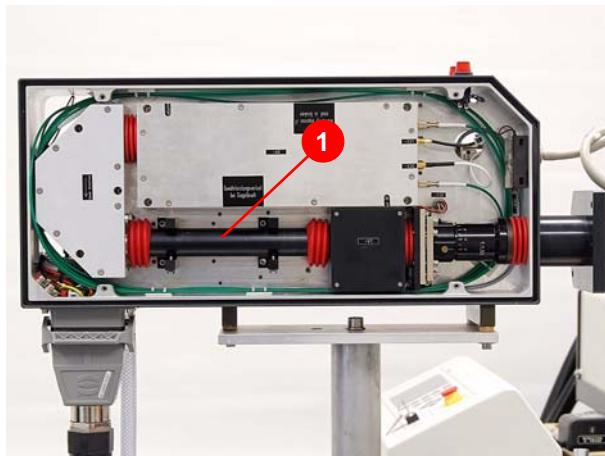

Figure 7.138 Dismantling the beam guide
2. Remove the beam guide (1) (Figure 7.138) of the laser head and beam expander (2).